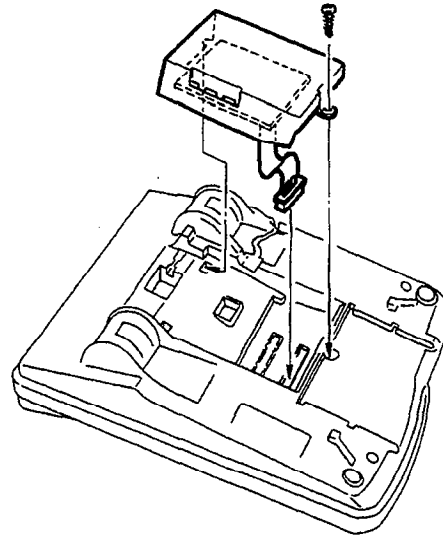

Figure 4-59 ADA(1)-W (BK)/(SW) Unit or ADA(2)-W (BK)/(SW) Unit Installation
4. Plug the CN1 connector from the ADA(1)-W (BK)/(SW) Unit or ADA(2)-W (BK)/(SW) Unit in the CN 4 jack on the main board. Refer to Figure 4-59 - ADA(1)-W (BK)/(SW) Unit or ADA(2)-W (BK)/(SW) Unit Installation, Table 4-5 - ADA(1)-W (BK)/(SW) Unit Cable Connection, and Table 4- 6 - ADA(2)-W (BK)/(SW) Unit Cable Connection.
5. Install the ADA(1)-W (BK)/(SW) Unit in the multiline terminal (component side down) using the screw provided.